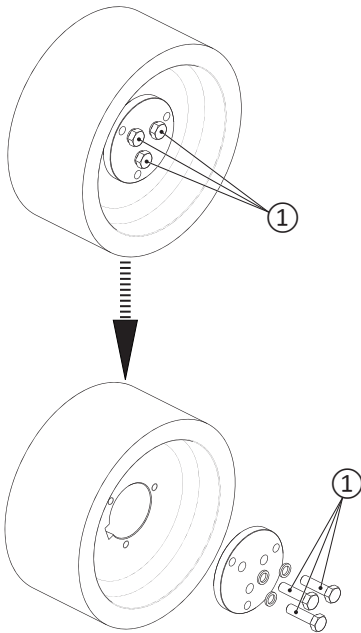
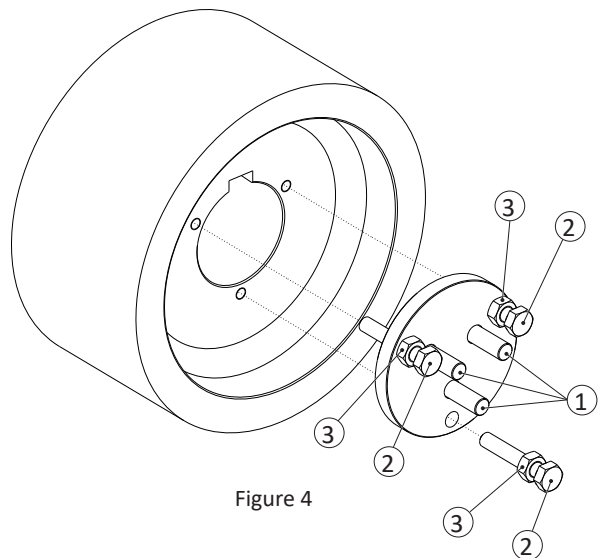

Figure 3
Figure 4
- Unscrew the retaining screws ① "Figure 3" and place them as shown in "Figure 4".
- Tighten the nuts ③ on the screws ② and place them as shown in "Figure 4".
- Tighten the ② screws by 15/20 mm in the threaded holes on the pulley.
- Remove the pulley by tightening in circular sequence the nuts ③, while holding the pulley screws ② firm.
- ① SCREWS M14x50
- ② SCREWS M12x60 (not included in the standard supply)
- ③ NUTS M12 (not included in the standard supply)